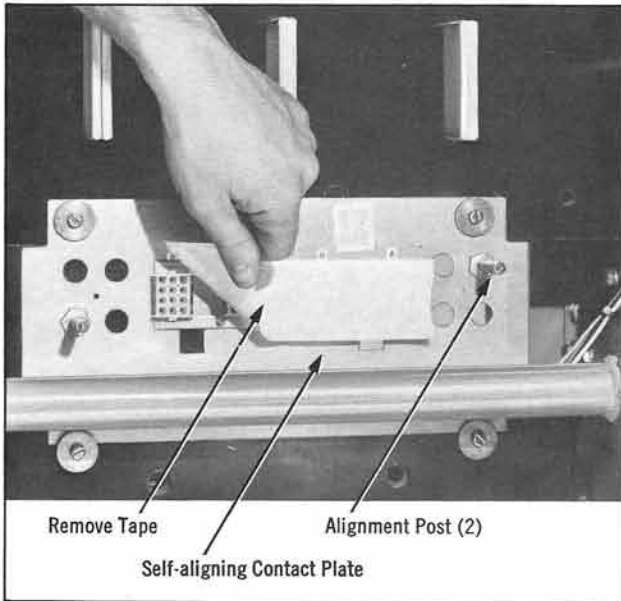

Fig. 7 Removing Tape from Secondary Control Blocks.
For draw-out frames equipped with secondary control blocks, refer to Figure 7 and remove the tape from the contact openings. Note: Secondary control block mounting plate is self-aligning.
- B. Tape removed from secondary control block contact openings. See Figure 7.